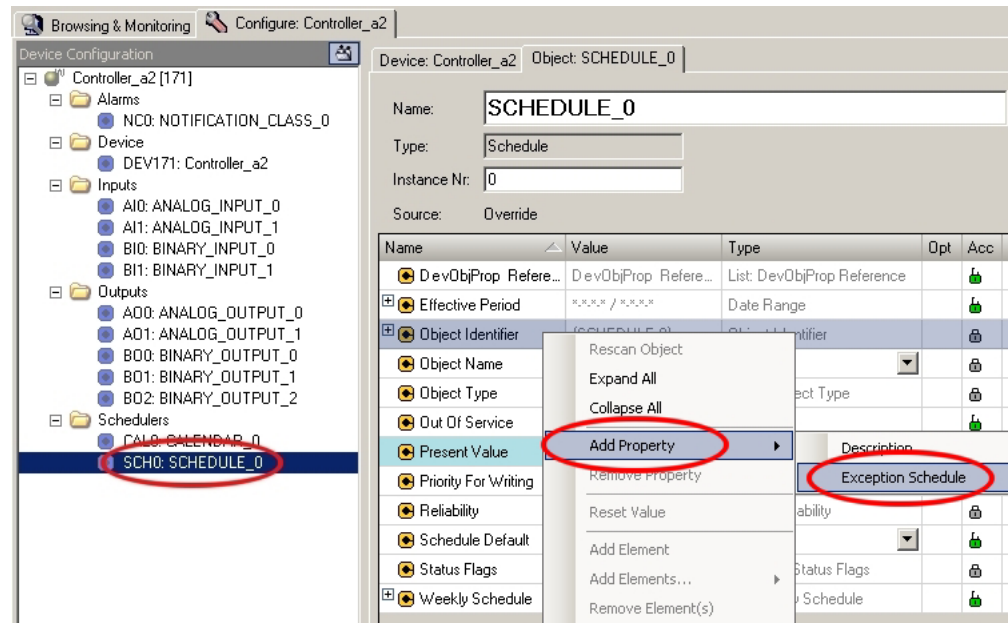

Fig. 4-6: Adding properties
7. Click with the right mouse button on the list of object properties and choose **Add Property > Exception Schedule** in the context menu (see Fig. 4-6).